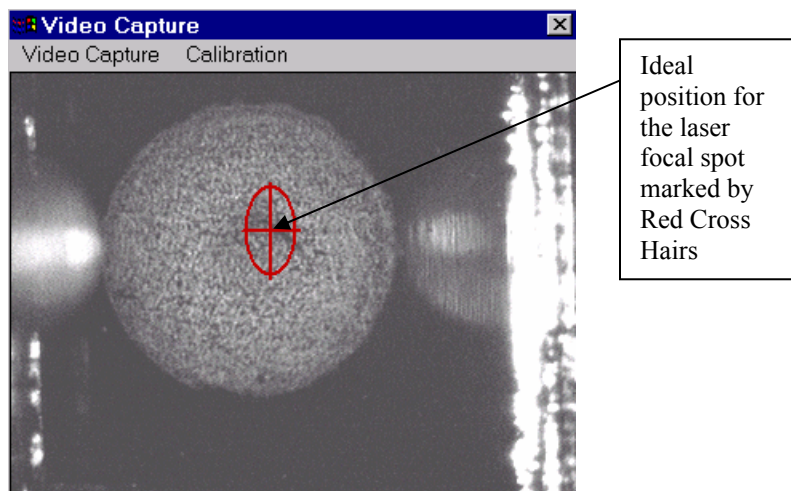

Fig. 8-4 Image of matrix crystals
Step 2. Switch ON the laser, spiral/raster motion OFF. Set the maximum laser through Target software. Now you should see the matrix crystal's evaporation at the place where the laser beam is focused (Fig. 8-4)
By comparing the location of the ablation hole with the ideal position shown by the Red Cross-Hairs, we can see that the laser focus is close to its ideal position, but slightly above and to the left. The deviation of the focal point shown in Figures 8-4 and 8-5 is acceptable, especially with *PDF* activated, but the source sensitivity can possibly be improved by fine tuning.